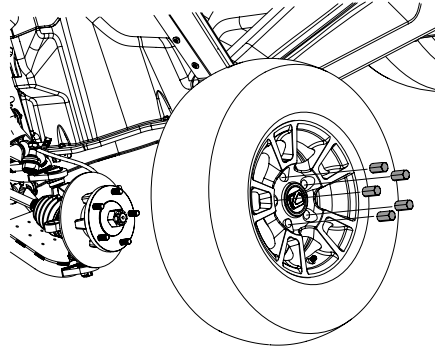

Figure 4-10
3. Loosen but do not remove the five lug nuts from the axle hub. See Figure 4-10.